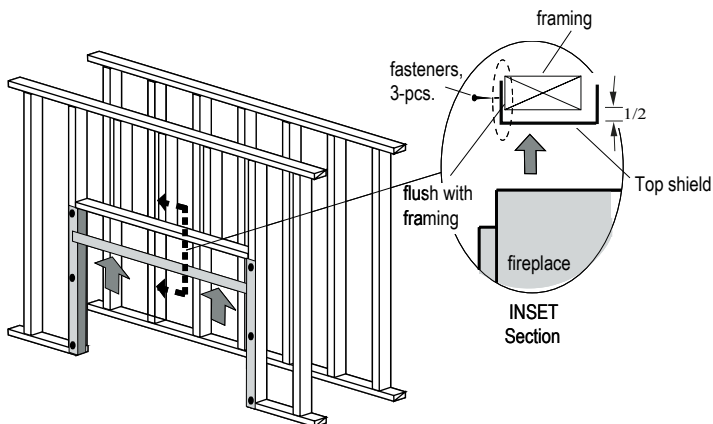

Figure 8a. Combustible Framing Top Heat Shield L52FS02x1, (one 1-pc).
Step 2. Next, fasten the Top shield (L52FS02x1), with the Wide flange face up, and the shallow flange toward inside of room, **Figure 8a**.